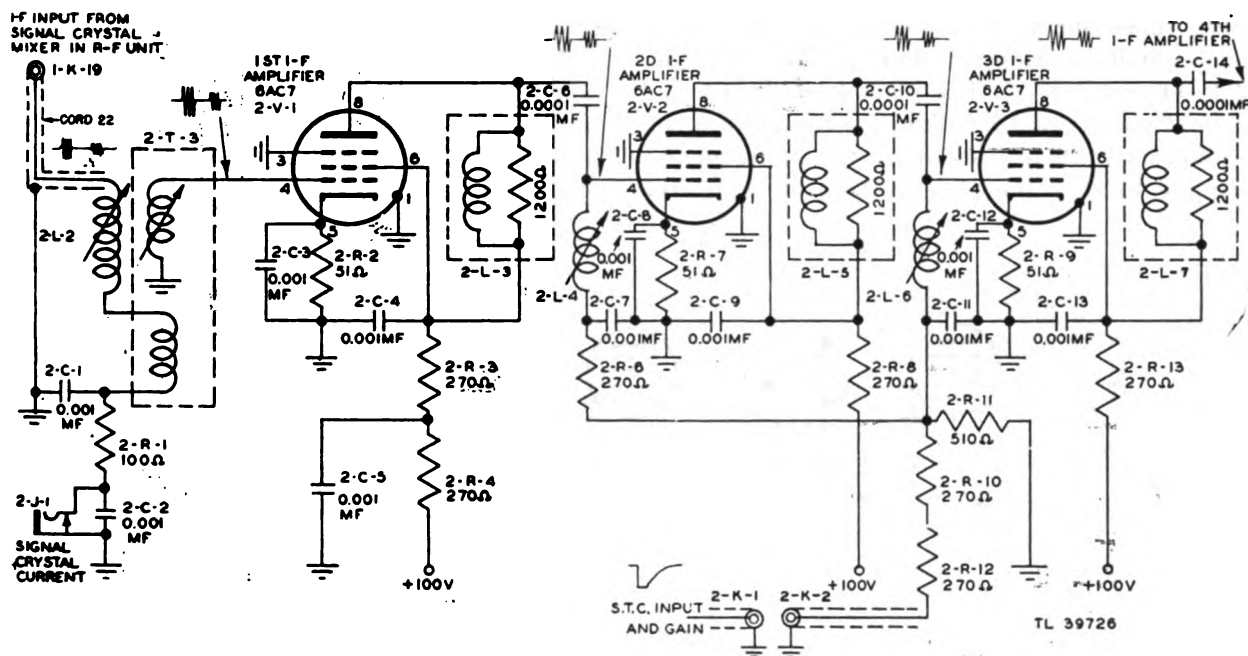

Figure 91. First, second, and third i-f stages, simplified schematic diagram.
**i. SECOND AND THIRD I-F STAGES.** The inputs to the second and third i-f stages (2-V-2 and 2-V-3, 6AC7's, fig. 91) are capacitively coupled through 0.0001-mf capacitors 2-C-6 and 2-C-10 from the preceding tubes. Both tubes operate Class A self-bias by means of 51-ohm cathode resistors 2-R-7 and 2-R-9. The grids are tuned by parallel-